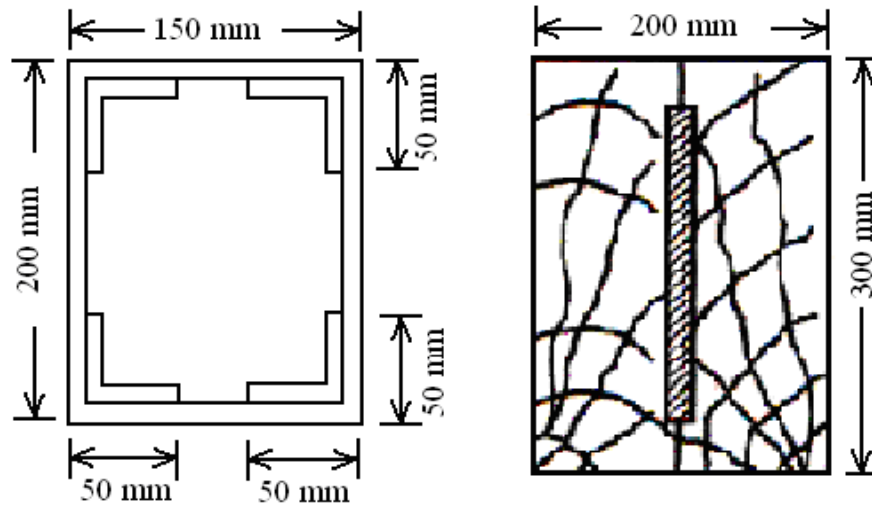

Figure 3:
7. Develop the shear stress distribution diagrams for the sections shown for the following figure 3 when subjected to a transverse S.F. of 200.0 kN. What are the maximum shear stresses? [16]